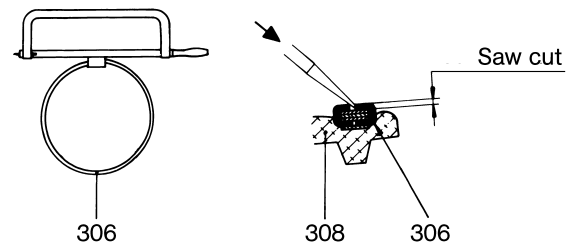

Figure 2: Removing the clamping band.
- Remove hexagon nuts (607) and serrated lock washers (608) as well as hexagon head bolts (606).
- Pull off the suction casing (505) over the rotor (401), taking care that the precision-machined rotor is not damaged in the process.
- Remove the suction casing gasket (501).
- Cut the lock on the clamping band (306) with a metal saw and press out on both sides using a screwdriver. Remove the clamping band (306) from the cover sleeve (308) (see Figure 2).